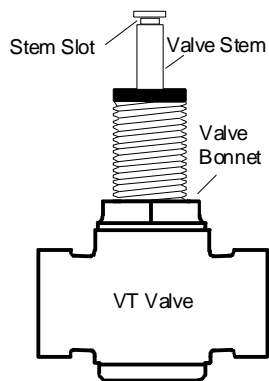

Figure 1: Slotted Stem VT Valve
1. Before starting, it will be necessary to remove any additional adapters or spacers on the valve bonnet. The VT Series Valve should look similar to the valve shown in Figure 1.